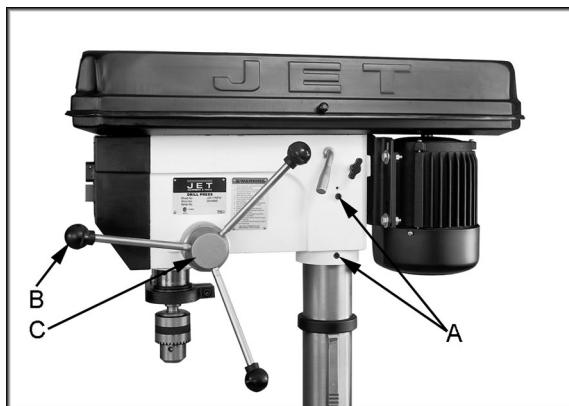

Figure 4
11. Tighten two set screws (A, Figure 4) with a 5mm wrench until they are snug.
12. Install three down feed handles (B, Figure 4) into the down feed hub (C, Figure 4).